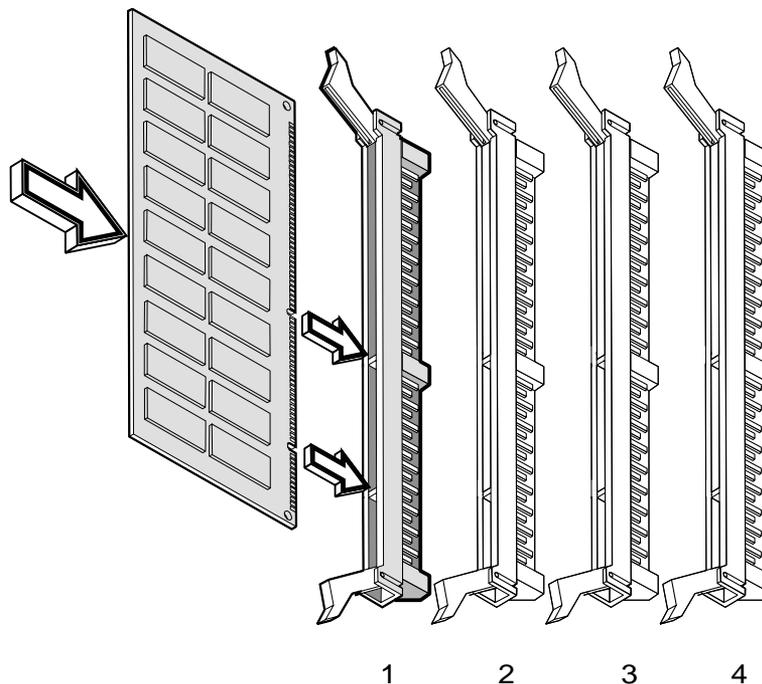

Figure 2-53 Installing a DIMM
2. Align the DIMM in an empty slot and press it in until the retaining clips secure the DIMM in place, as shown in Figure 2-53.